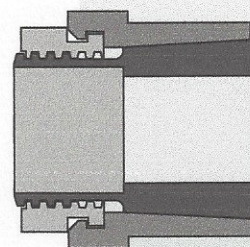

Figure 1
**Warning: The shaft must fully engage the shaft gripping area (Figure 1) of the Trantorque GT unit. Figure 2 illustrates minimum shaft engagement.**